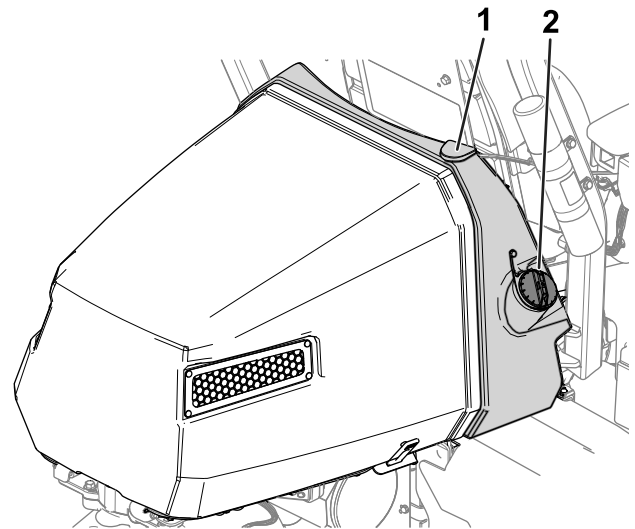

Figure 27
2. Clean around the fuel-tank cap and remove it (Figure 27).